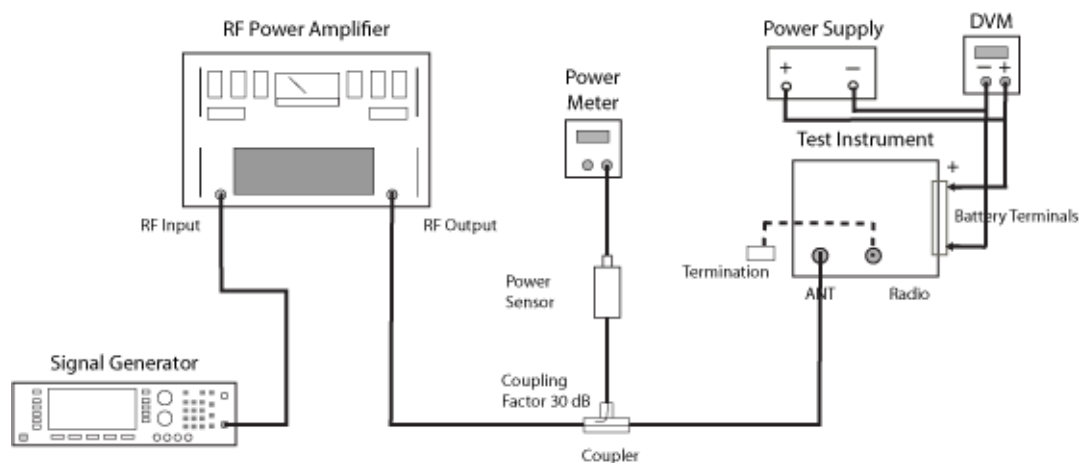

Figure 11 Reverse Power Test Setup
- 1 Connect the equipment as shown in Figure 11.